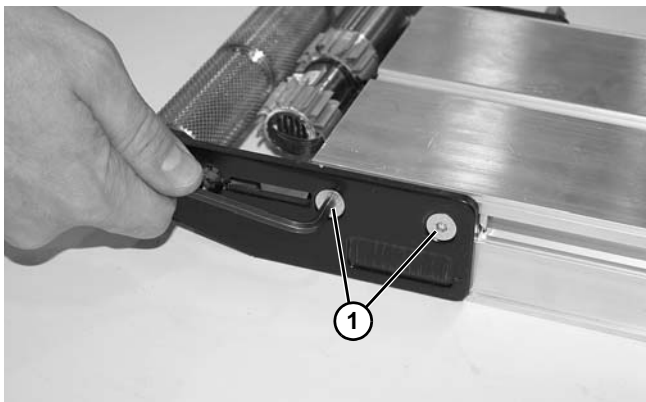

Figure 87
7. Remove two head plate fastening screws (Figure 87, item 1) from opposite side of conveyor.